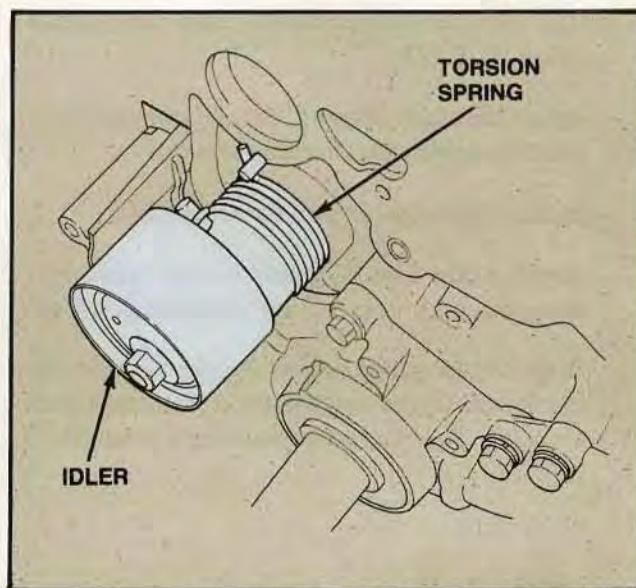

Figure 123. Timing Belt Idler Installation
1. Install the timing belt idler subassembly (Fig. 123).